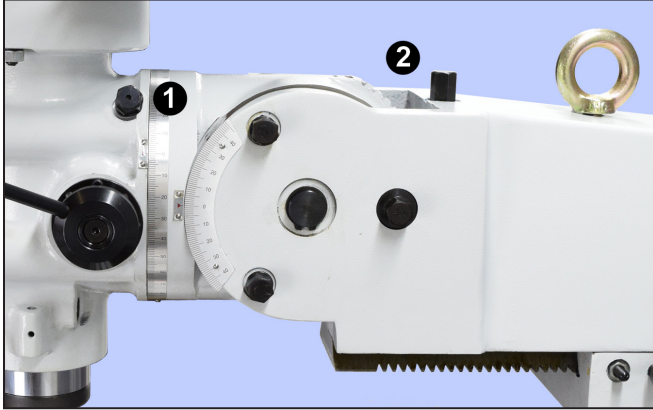
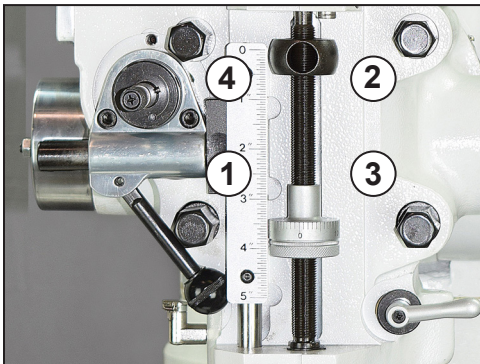

Figure 3-5 **Head swivel & head tilt worm drives**
Figure 3-6 **Head mounting bolts**
Precision Matthews TS and TV knee mills have two-way adjustable heads. They can be swiveled  $\pm 90^\circ$  clockwise/counterclockwise, and tilted  $\pm 45^\circ$  forward/backward. Worm drive adjusters are provided for both axes, Figure 3-5, which also shows the three clamping bolts for front to back tilt. Clamping bolts for the other axis are shown in Figure 3-6.
Set the headstock to the desired angle by reference to the tilt scales, then re-tighten the bolts. For the clockwise/counterclockwise axis, re-tighten in a diagonal sequence, Figure 3-6, first pass at 25 lb-ft torque, second pass at 50 lb-ft. (Over-tightening can distort the head, causing the quill to bind.) Use the same torque settings on the other tilt axis.
When backing the ram, stop when the separation between the forward edges of male and female dovetails, points (1) and (2), is 2-1/2". Go no further. Otherwise, the ram will likely jam and cannot be brought forward unless unweighted by lifting on the eyebolt shown in Figure 3-5.